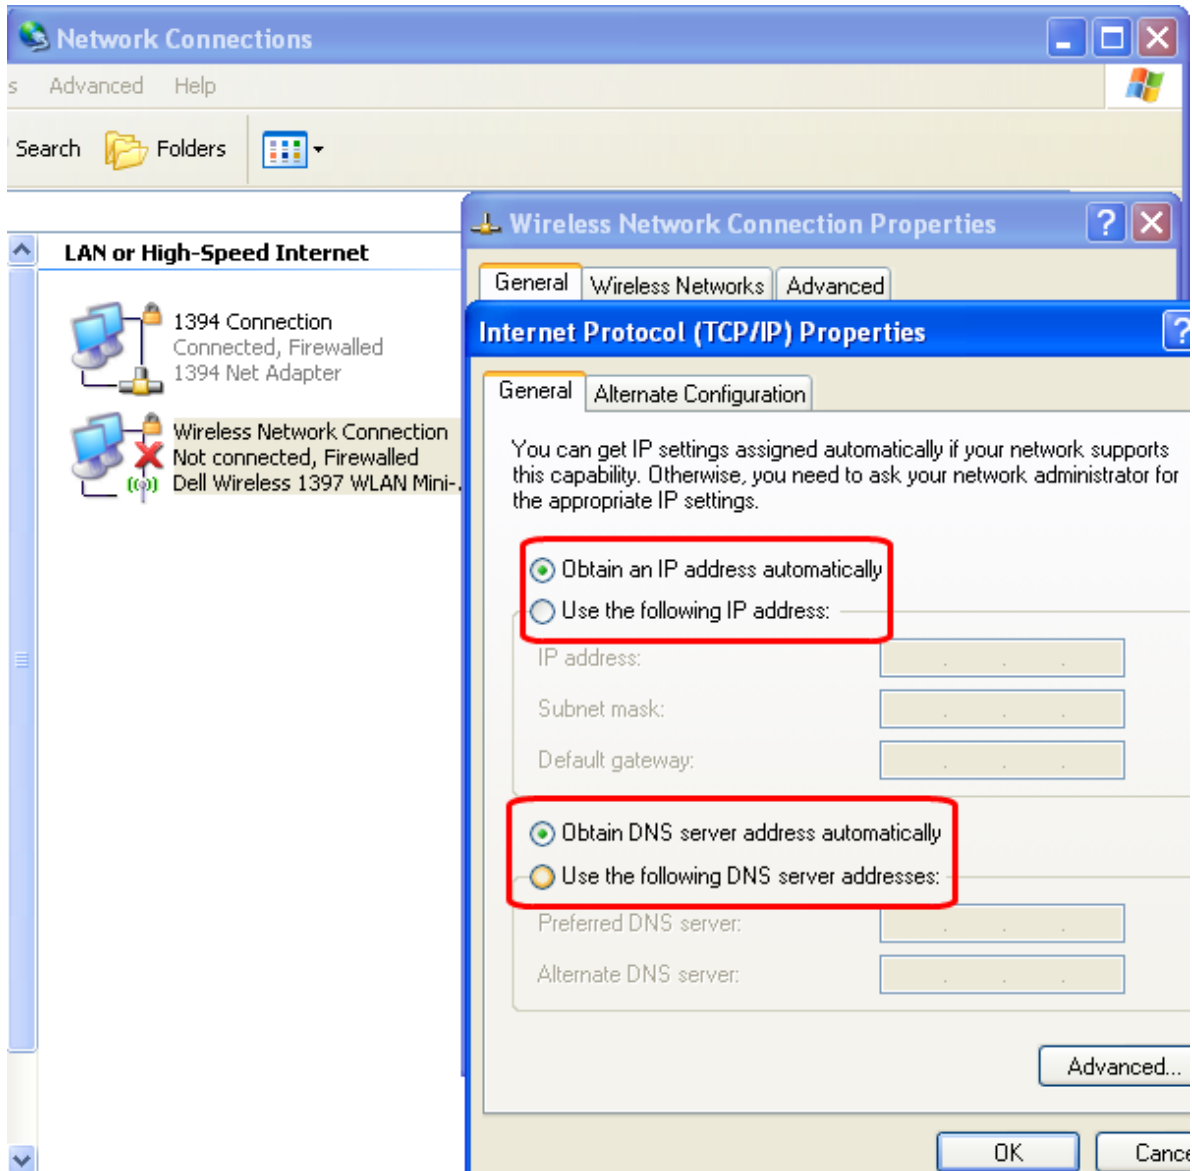

Figure 3-6 Wireless Network Connection Properties for OMT
3. Change the TCP/IP properties (see Figure 3-6):